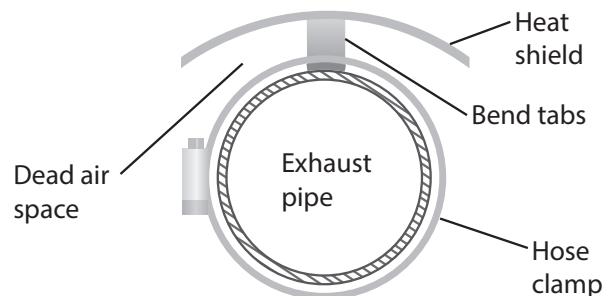

fig. 27
4. Bend the heat shield to form it around the tail pipe. Be sure to maintain a “dead air” space of 1/2” to 1” between the tail pipe and the heat shield (Fig. 27).